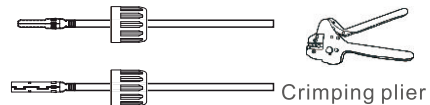

Figure 5.15 Crimp the contact pin to the wire
3. Crimp the contact pin to the wire using a proper wire crimper. (see Figure 5.15)